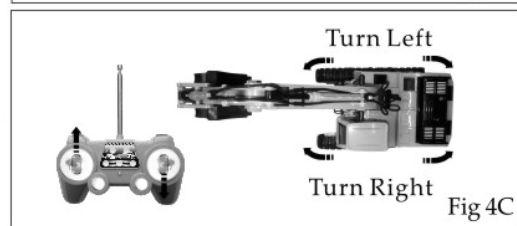

Fig 4C
3. Turn Left/Right: to pull ahead/back of the Left control lever, the car will turn right with a mechanic sound to pull the Right control lever at the same way the excavator will turn left with a mechanic sound (Fig 4C)